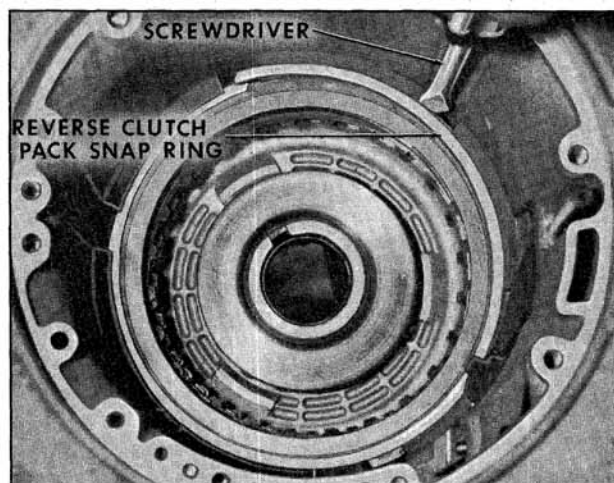

Fig. 6-494 Installing Snap Ring
8. Install reverse clutch pack snap ring. (Fig. 6-494)